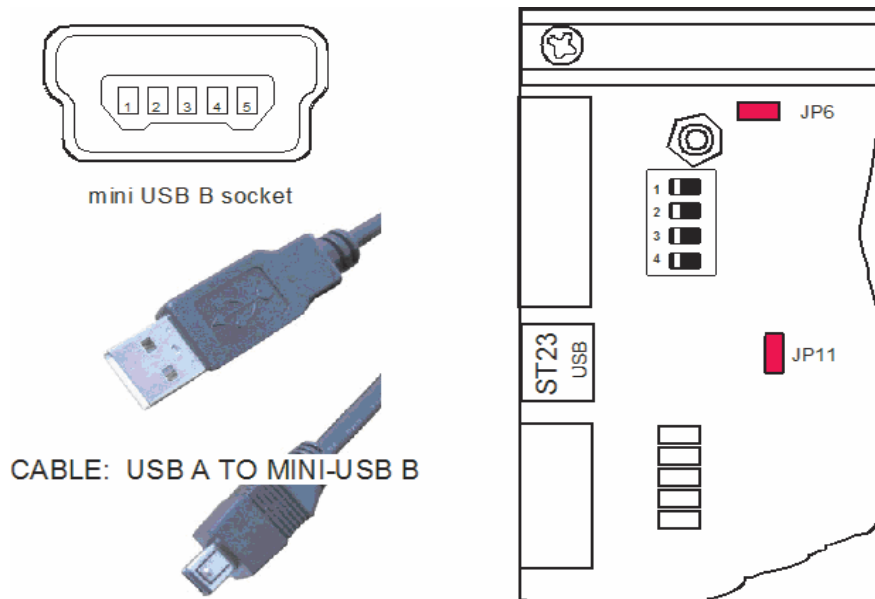

**Figure 2-7. Battery Backup for Memory**
- Connect a battery (with VCC3 nominally 3.0 V) between pins 6 (+) and 7 (–) of ST22 as shown in Figure 2-7, instead of a bridge between VCC2 and VCC3. Tolerances for the battery are given in Section 3.2.1.1.